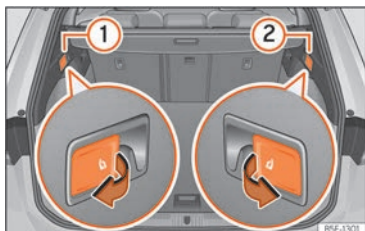

Fig. 120 In the luggage compartment: levers to unlock the rear backrest.
- Pull the remote release lever of the left part »» Fig. 120 ① or right part ② of the backrest in the direction of the arrow. The released part of the rear seat backrest is folded automatically down and forwards.